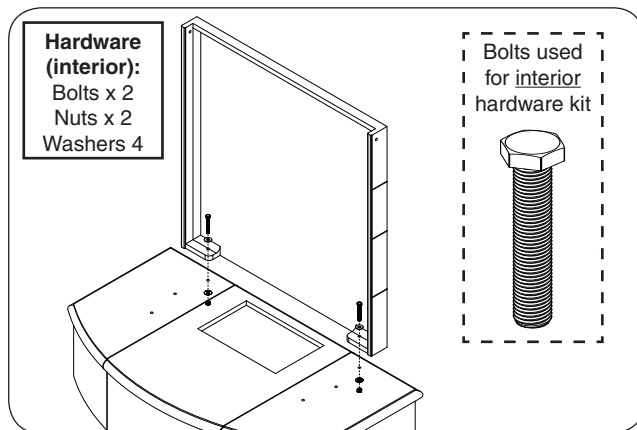

Fig. 17-1 Assemble body - rear wall
1. Place the body rear wall piece on top of the hearth. Carefully align the pilot holes, insert the hardware (interior hardware kit) in the order shown, and only hand tighten at this stage. See Fig. 17-1.